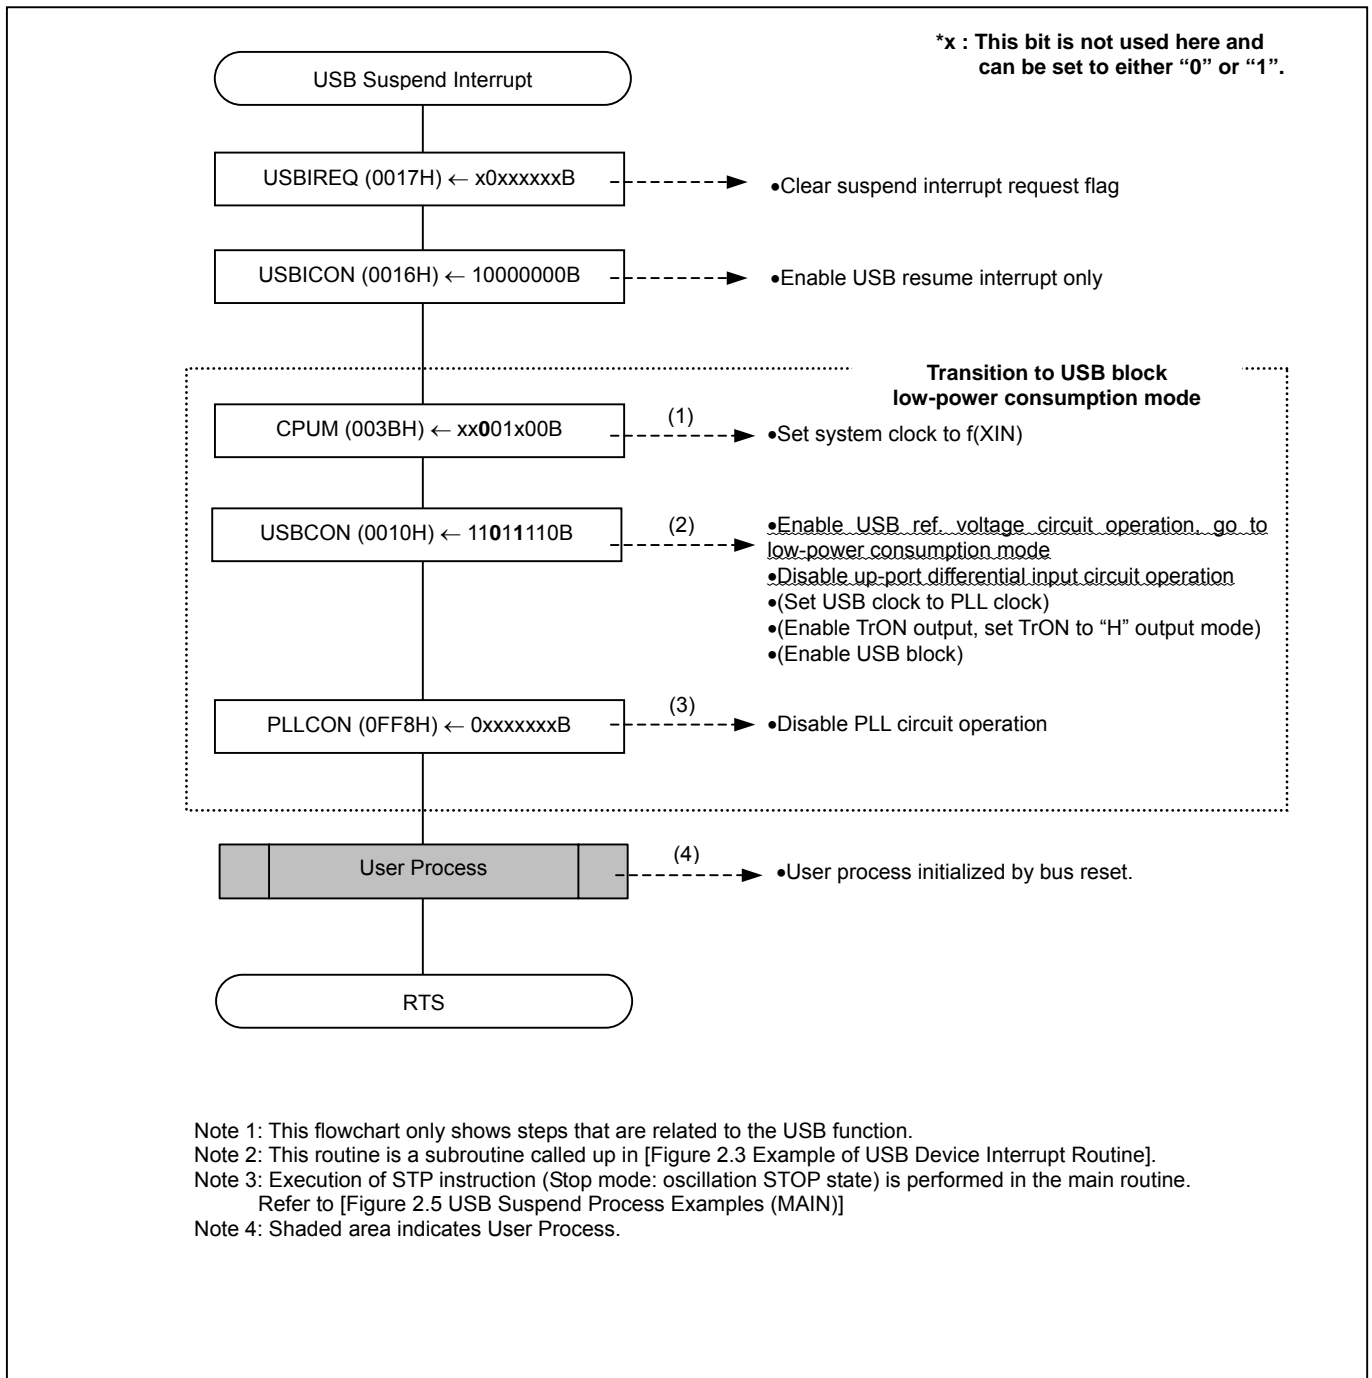

Figure 2.4 Example of USB Suspend Interrupt Routine
(6) USB suspend interrupt processing
- An example of the processing routine executed when a USB suspend interrupt is received is shown in Figure 2.4.
The following are detailed descriptions of the steps shown in [Figure 2.4 Example of USB Suspend Interrupt Routine].
The STP instruction (STOP mode: oscillation STOP state) is executed in the main routine after the USB suspend interrupt processing shown in Figures 2.4.